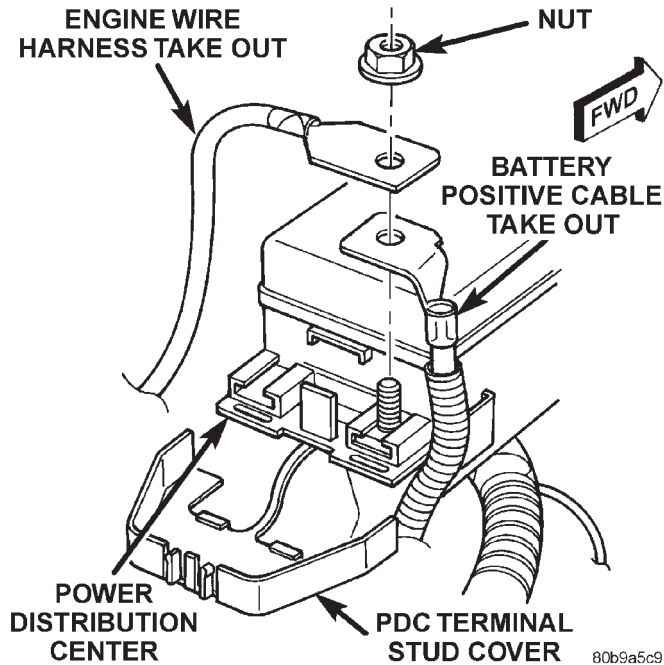
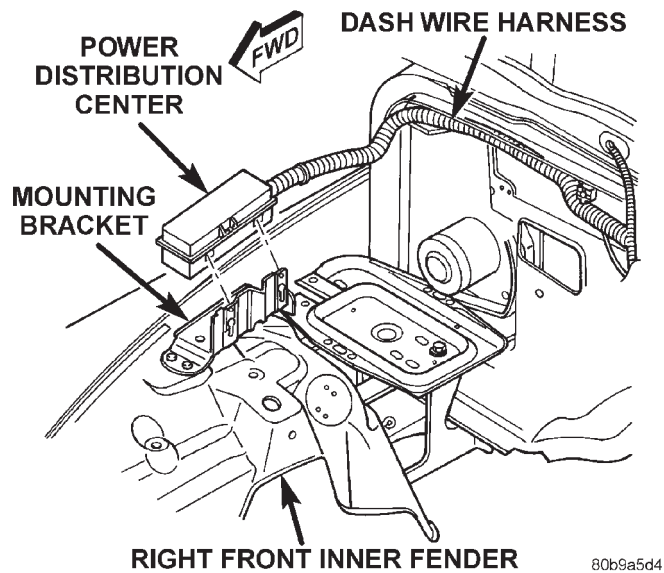
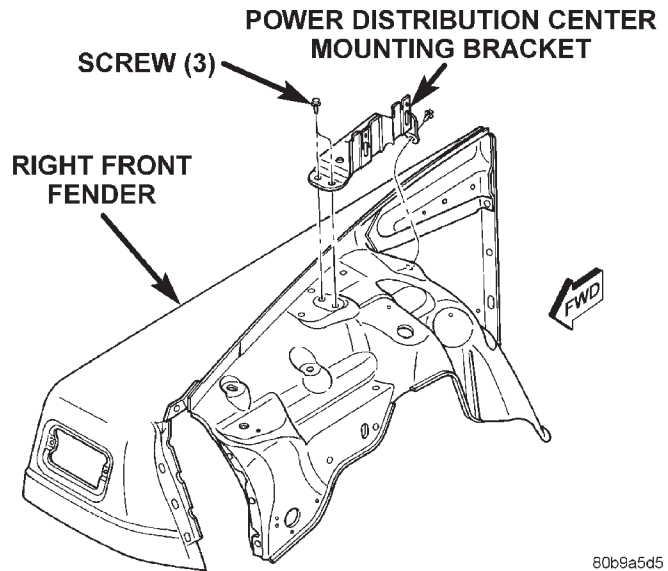

Fig. 3 Power Distribution Center Connections
Fig. 4 Power Distribution Center Remove/Install INSTALLATION
Fig. 5 PDC Mounting Bracket Remove/Install
(1) Disconnect and isolate the battery negative cable.
(2) Disconnect each of the dash wire harness connectors. Refer to **Connector Locations** in the Contents of Group 8W - Wiring Diagrams for more information on the locations of the affected connectors.
(3) Remove all of the fasteners that secure each of the dash wire harness ground eyelets to the vehicle body and chassis components. Refer to **Connector Locations** in the Contents of Group 8W - Wiring Diagrams for more information on the ground eyelet locations.
(4) Disengage each of the retainers that secure the dash wire harness to the vehicle body and chassis components. Refer to **Connector Locations** in the Contents of Group 8W - Wiring Diagrams for more information on the retainer locations.
(5) Unlatch and remove the terminal stud cover from the rearward end of the PDC (Fig. 3).
(6) Remove the nut that secures the eyelets of the battery positive cable take out and the engine wire harness take out to the stud on the PDC.
(7) Remove the battery positive cable take out and the engine wire harness take out eyelets from the PDC stud.
(8) Disengage the latches on the PDC mounting bracket from the tabs on the PDC housing, and pull the PDC housing upward to disengage the mounting slots from the stanchions of the mounting bracket (Fig. 4).
(9) Remove the PDC and the dash wire harness from the engine compartment as a unit.
(10) Remove the three screws that secure the PDC mounting bracket to the right front inner fender (Fig. 5).
(11) Remove the PDC mounting bracket from the right front inner fender.